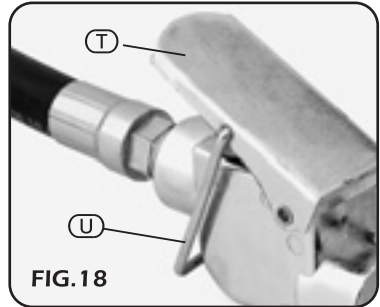

FIG.18
6.2 RAISING AND LOWERING (Figs.18&19):